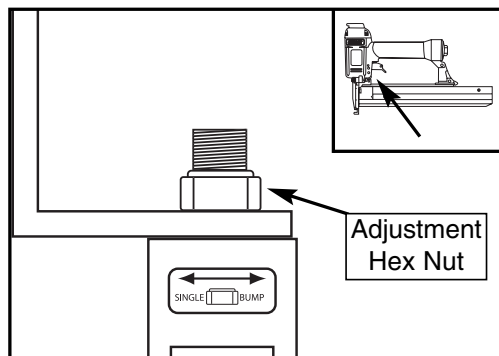

Figure 3. Single/bump fire adjustment.
2. Locate the hex nut that secures the safety yoke mechanism to the trigger housing. See **Figure 3**.